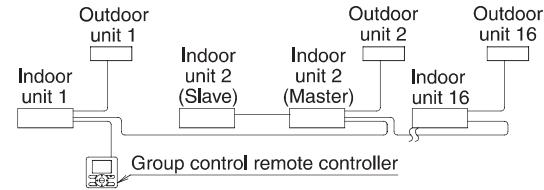

Fig. 28
• When using as a pair unit or as a master unit for simultaneous operation system, you may carry out simultaneous start/stop (group) control up to 16 units with the remote controller. (Refer to Fig. 28)
- (1) Remove the control box lid.
- (2) Connect crossover wiring between the terminals (P1, P2) inside the control box for the remote controller. (There is no polarity.) (Refer to Fig. 28)